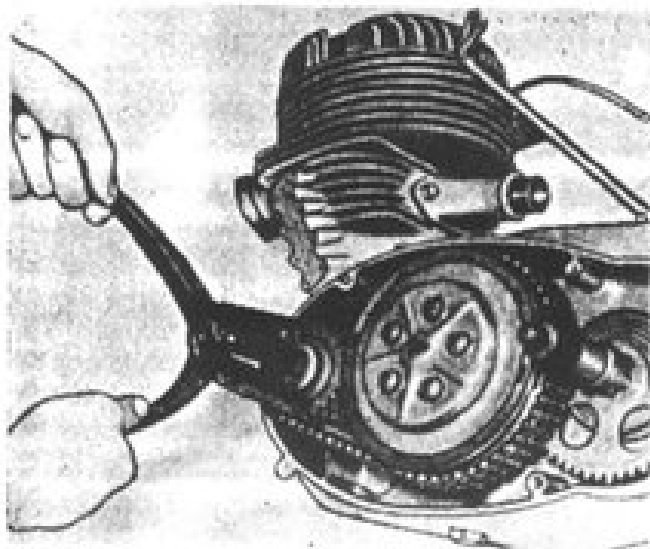

Fig. 10. Snapping the crankshaft sprocket lock cap.
8. Set a new or repaired sprocket lock cap and fasten it with the snap 9, Set No. 2 (fig. 10) or punch it out.